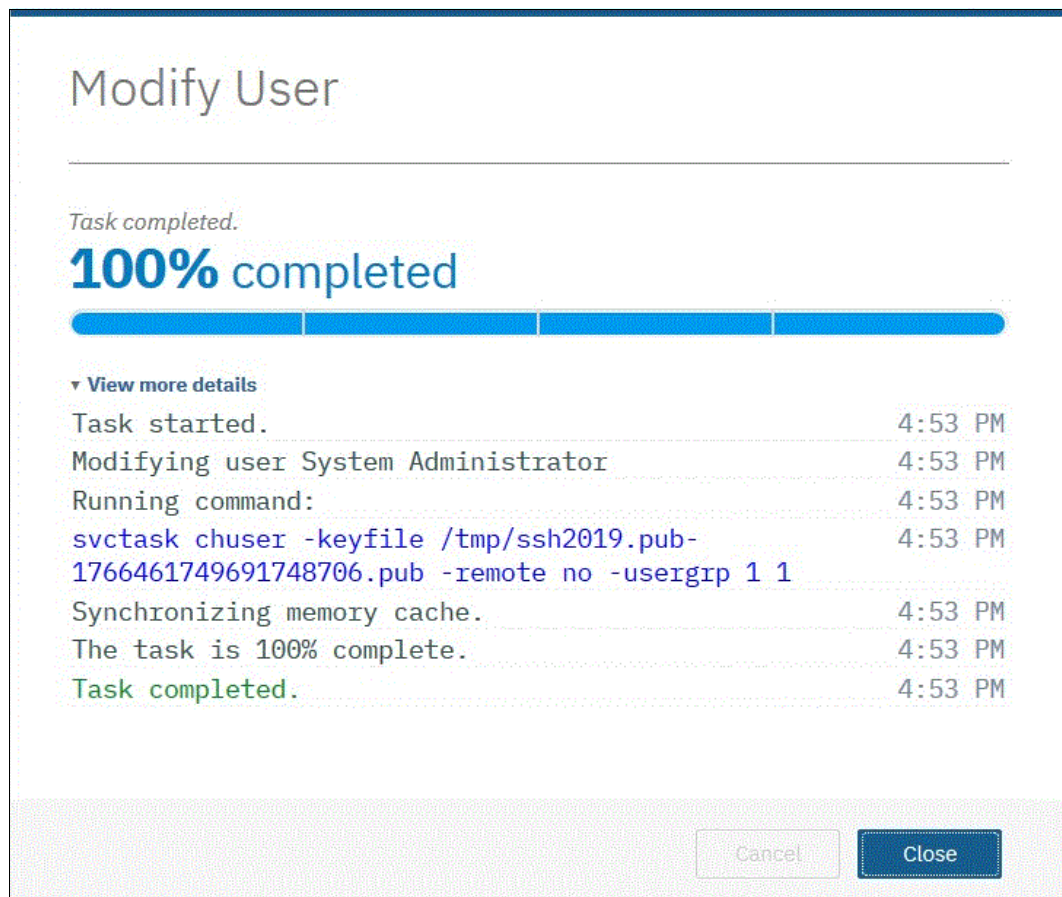

Figure B-6 Confirming the SSH key upload
4. Click **OK** and the key is uploaded, as shown in Figure B-6.